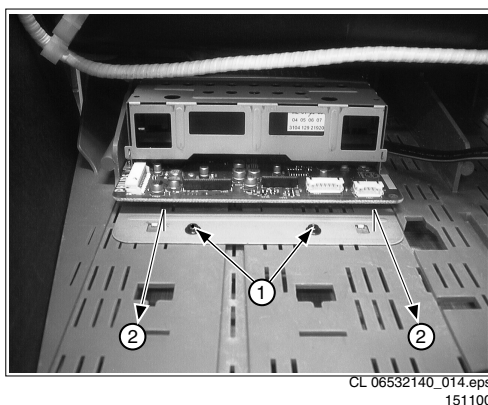

Figure 4-2
- Unscrew the two fixation screws [1], **Fig. 4-2**.
- Lift the DVD Module and remove it in a backward motion [2], **Fig. 4-2**.